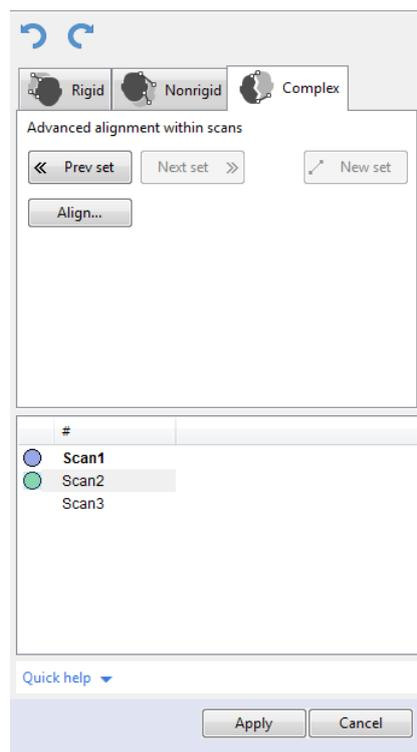

Figure 72: Align panel: Complex tab.
1. Make sure the *Complex* tab is selected (see Figure 72).